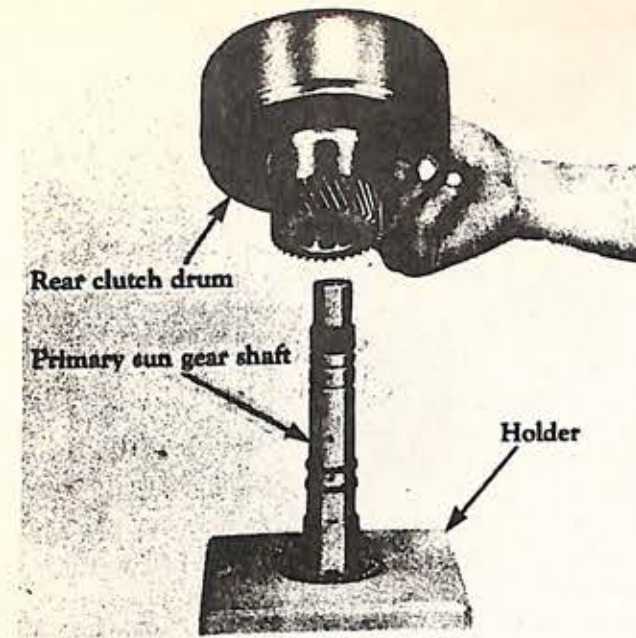

Fig. 61
1. Lift the rear clutch assembly from the primary sun gear shaft (Fig. 61).
Lubricate all parts to aid in assembly. Install the rear clutch assembly on the primary sun gear shaft (Fig. 61). **CAUTION:** Center the oil seal rings on the primary sun gear shaft to prevent breakage.